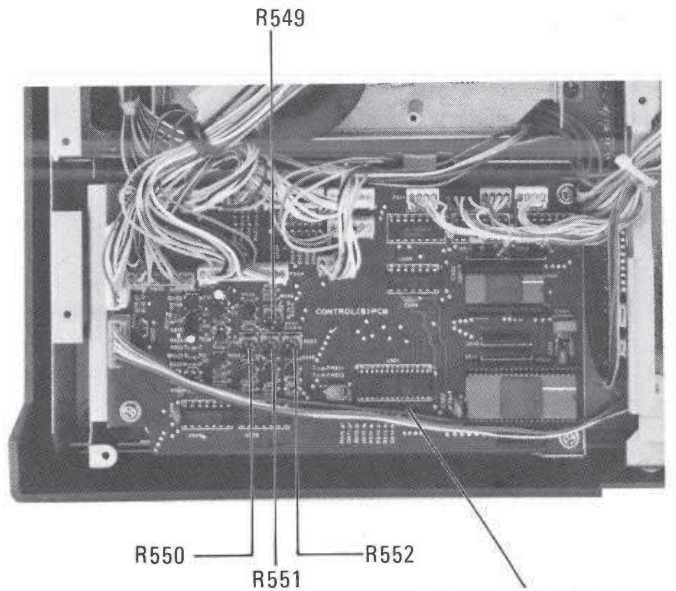
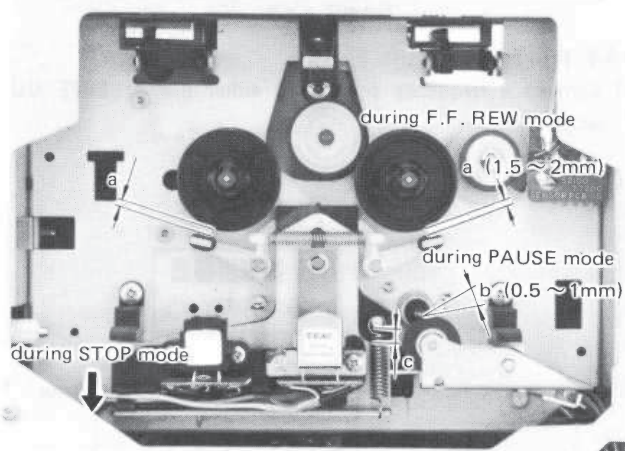

Fig. 4-4-2
Fig. 4-4-3
- 2) Turn the reduction pulley with your hand and observe whether the head base comes to the same position as noted or exceeds the position. If exceed, adjust the trim pot 552. (Refer to Fig. 4-4-2)
Run the deck in the FF or RWD mode and make sure a clearance between each brake drum and the brake pad is approx. 1.5 to 2 mm. If not, adjust R550. (Refer to Fig. 4-4-2) After the adjustment has been completed, repeat switching operations from the STOP to FF or RWD two or three times and make sure the clearance "a" is within the specified range. If the "a" is not within 1.5 to 2 mm, adjust R550 again. Refer to Fig. 4-4-3.
Set the deck to PAUSE mode and observe the clearance "b" between the pinch roller and capstan shaft. It should be approx. 0.5 to 1 mm. If not, adjust the trim pot R551 (Refer to Fig. 4-4-2). After completion of the adjustment, repeat switching operations from STOP to PAUSE mode two or three times, and make sure the clearance "b" is within the specified range. Also make sure there is a clearance "c" between the head base and a spring stud. (Refer to Fig. 4-4-3)
Load a cassette torque meter instead of a cassette tape in the cassette holder, and run the deck in PLAY mode. Take-up torque of the right reel table should be 40 – 50 g. If not, adjust the trim pad R549 (Fig. 4-4-2) to read 45 g-cm. After completion of the adjustment repeat the STOP and PLAY mode operations 2 to 3 times, and then make sure the torque reading is within the limits. Back tension torque (left reel table) should be 2 to 4 g-cm. If the torque is still out of the limits, adjust the torque adjusting ring provided on the right reel table. The torque can be adjusted in three values as shown in Fig. 4-4-5. Turn the torque adjusting ring with the tab A pulling slightly upward and place the tab on one of three stepped portions having pawls to fix the tab.